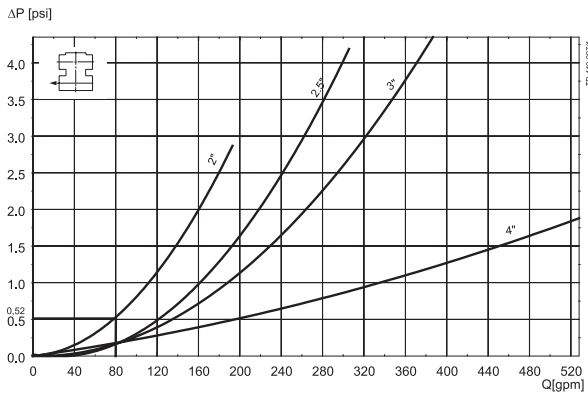

Fig. 4. Pressure drop/capacity diagram, between bodies
- From fig. 4, $\Delta p = 0.52$ psi through lower body.